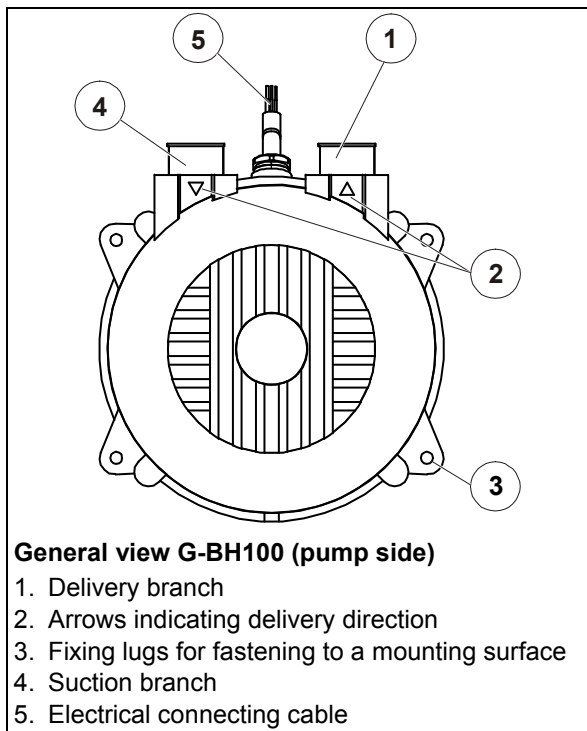

Fig. 4: General view G-BH100
- Fig. 4: .
Place the rubber / metal elements (rubber pads) between the fixing lugs (Fig. 4, # 6) and the mounting surface.
<p>IMPORTANT! The main or operating direction of rotation of the G-BH100 is the counter-clockwise rotation, given by the arrow indicating the direction of rotation on the pump lid (see Fig. 4, # 5, page 10). Only with the counter-clockwise rotation the nominal values will be achieved. Clockwise rotation is only permissible in special cases. In this instance the G-BH100 will not achieve its full output.</p>